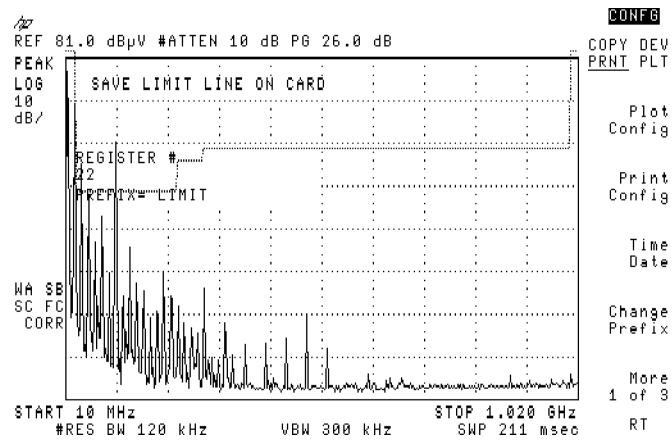

Figure 3-76. **CONFIG** Softkey Screen
4. Press **CONFIG**. See Figure 3-76.